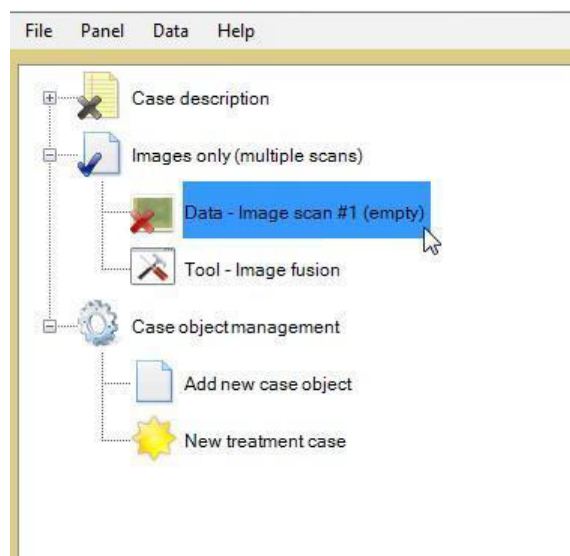

Figure 6: Scan an image
Step 10: Expand the 'Images only' case object and click on "Data Image scan #1 (empty)" (Figure 6). When the Epson Scan window appears choose the settings in Figure 7C. If the color correction icons are active (red arrow in Figure 7A) they must be de-activated by opening the Epson Scan Configuration window (Figure 7B) and checking "No Color Correction". The icons will appear gray (green arrow below, right). Then run six preview scans to warm up the light source in the scanner.